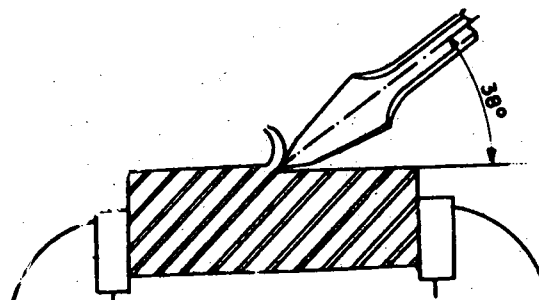

Fig. 10
1. Hold the chisel in the position shown in Fig. 10.